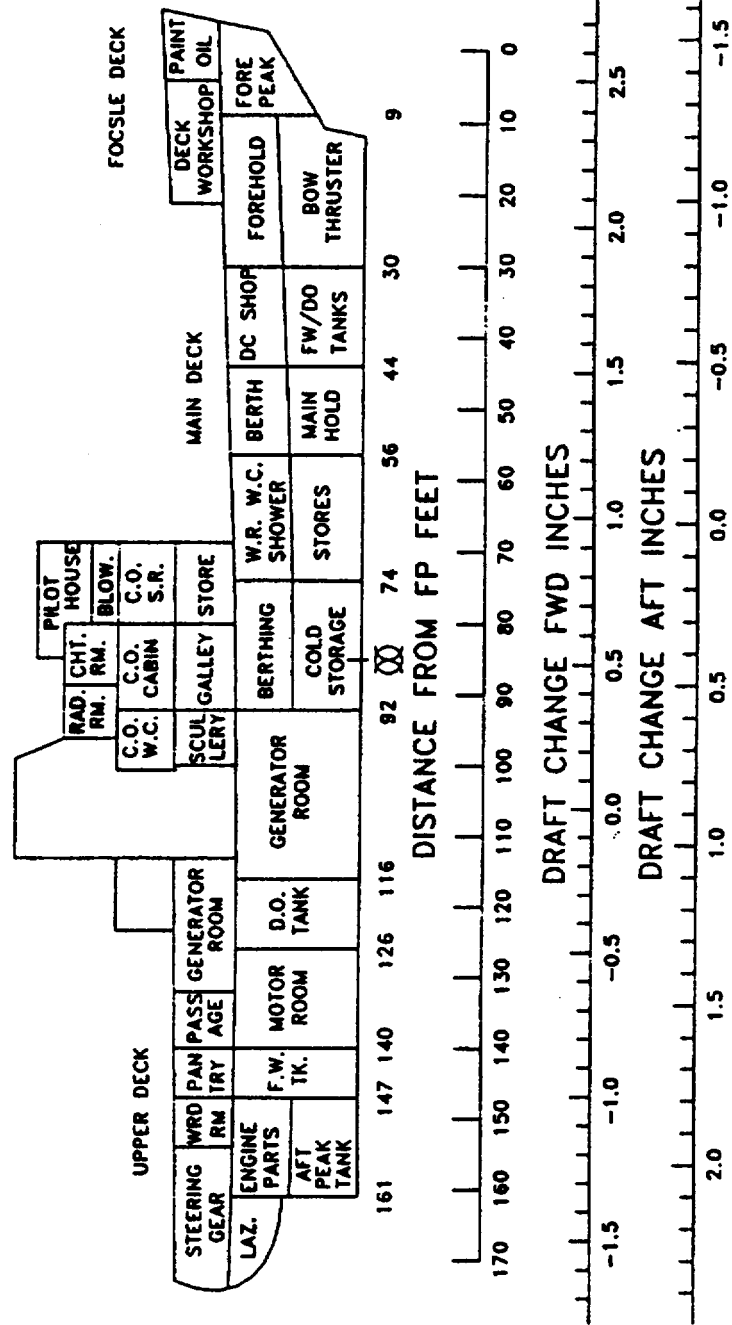

Fig. 7-7 Typical trim table
- i. Predicting changes in trim due to adding, deleting, or shifting weight about the cutter, is done by using the stability booklet's Trim Table. The table consists of a simplified profile view of the ship with a graph below the various compartments that indicates how much a standard weight placed in that space will affect draft. For example, in **Figure 7-7** we see that if a 133' WLM loaded 2.5 tons into the forward hold, the draft change would be determined as follows:
- (1) The Trim Table shows that a 5-ton addition to the forward hold would increase draft forward by 2.1 inches and decrease draft aft by .5 inches. Since the weight in the example is one half of the standard 5-ton weight, the change in drafts will be one half of the charted change, or an increase of 1 inch forward, and a decrease of .25 inches aft. Trim will change .75 inches down by the bow.
- (2) You must remember that this table is based on additions or removals of weight. If an existing weight is shifted, subtract it from its old position, then add it in its new position if an accurate determination is desired.
- i The change in the vertical center of gravity (KG), is another important measure of vessel stability. The maximum and minimum KGs for a certain cutter have been determined by the designer and personnel must ensure that these limits are not exceeded.